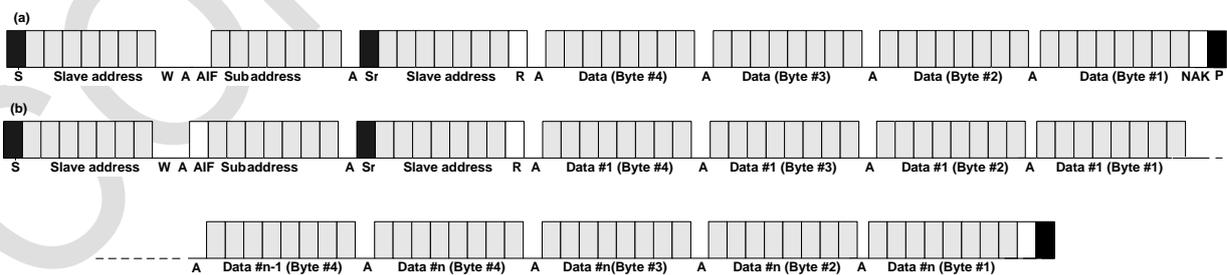

**Figure 8. Single Byte Read Mode Sequence**
**Figure 8-(a)** represents single byte reading operation from the NTP8212G. To read data from the NTP8212G, generate start condition to start transfer. After then, send “slave address” with write mode flag and send the register address(sub address). By regenerating start condition (Sr) again and transferring “slave address” with read mode flag, reading operation begins. The NTP8212G will generate data on SDA signal synchronizing with serial clocks on the SCL. Because the SDA signal generated from the NTP8212G, the master device must generate ACK on 9th slot to confirm that the master received read 1 byte successfully. However, if this is just one byte reading operation, NAK (not acknowledged) signal must be generated. Then stop condition must be generated to end transfer.
When AIF set to high on sub address like **Figure 8-(b)**, data will be read continuously with register addresses which are increased from initial “sub address” for every byte. In continue reading operation, the master must generate ACK signal on every 9th bit of the packet to confirm that master has received 1 byte successfully. Otherwise, reading operation will be terminated.
The type presented on **Figure 9-(b)** is quad byte read operation under address auto increment mode, AIF function. Please compare the data receive size between **Figure 8** and **Figure 9**.